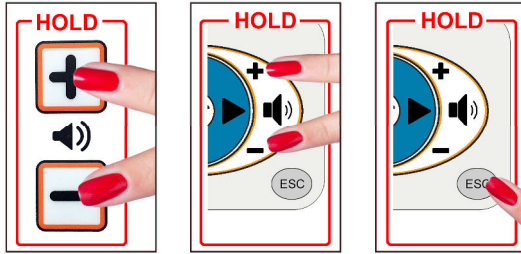

Figure 23 – Resetting the Camera
- If it is necessary to confirm the system has been fully powered there are two LED's behind the front grill which will be illuminated, as shown in Figure 23.